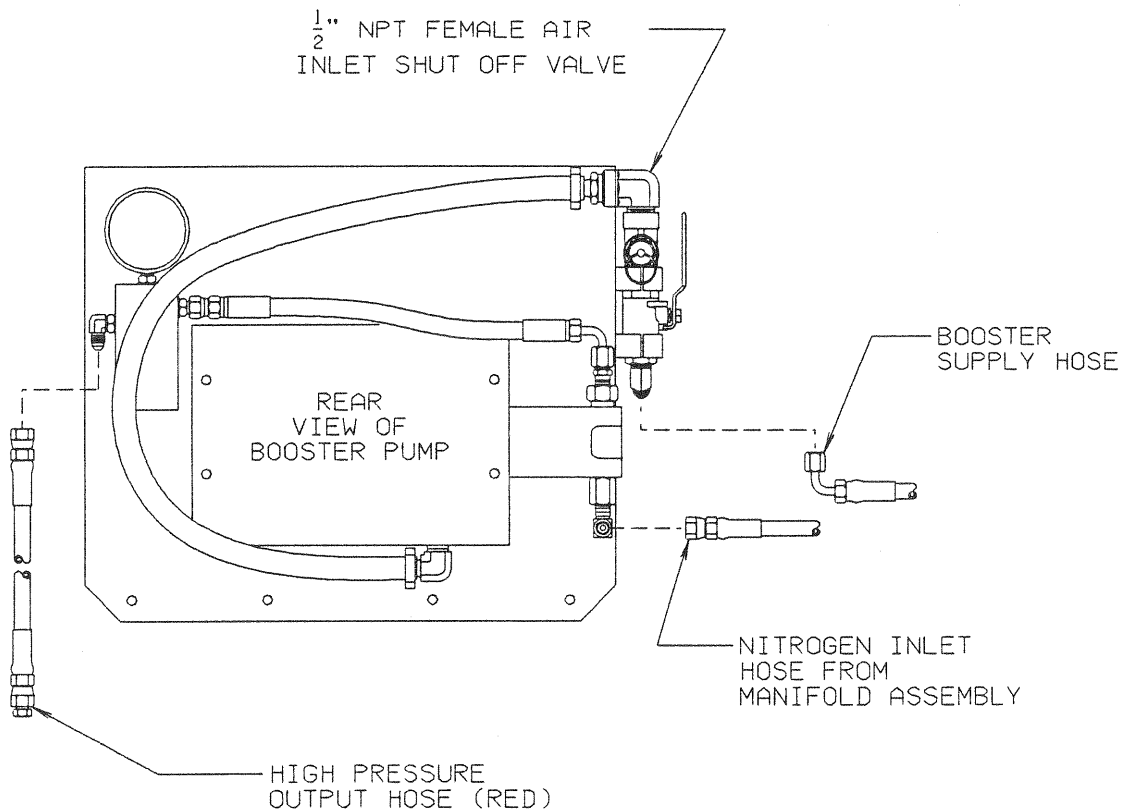

Figure 5
- 1 SEE FIGURE 5 (REAR VIEW OF BOOSTER PUMP) FOR HOSE CONNECTIONS.